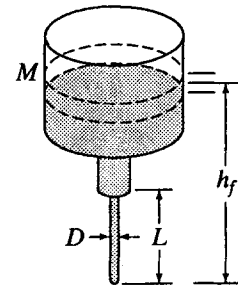

Figure 11.1
- 11.1.7 A tube viscometer similar to the one of Fig. 11.1 has a diameter of 0.0420 in and a length of 3.10 in. A volume of 60 mL flowed through the tube in 128.7 sec, causing the vertical distance from the liquid surface in the reservoir to the tube outlet to change from 10.00 to 9.50 in. Find the kinematic viscosity of the liquid.